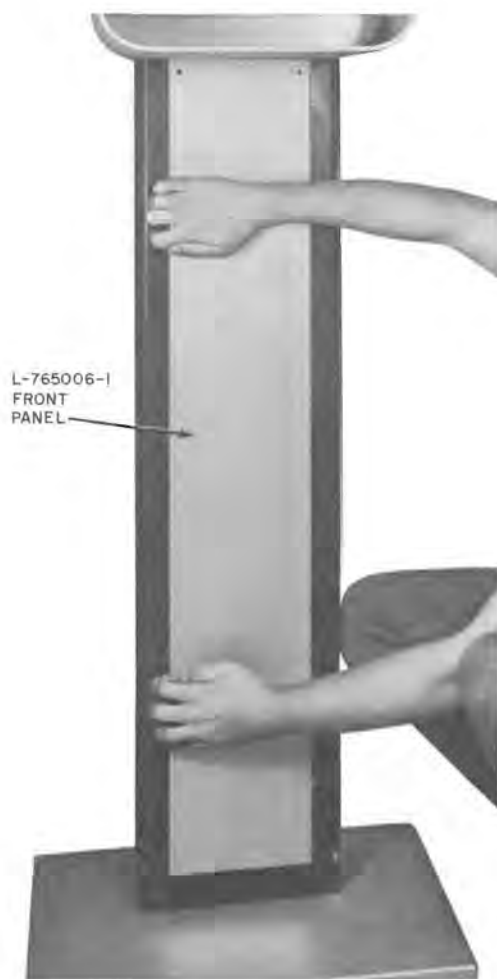

Fig. 10—Installing or Removing the Front Panel on Post Assembly
- (1) Position the locking flange on right side of the front panel against the right-side opening of the post.
- (2) Pull both top and bottom of the panel to the right at the same time (Fig. 10) until the flange on left-side of the panel drops past the opening on the left side of the post, then release the panel which will lock in place.
- (3) Using a KS-19192, List 1 wrench, install the two L-765065-2 flat head security screws (No. 10-32 by 1/2), removed in 3.03(9), through the upper part of the panel and into the post.